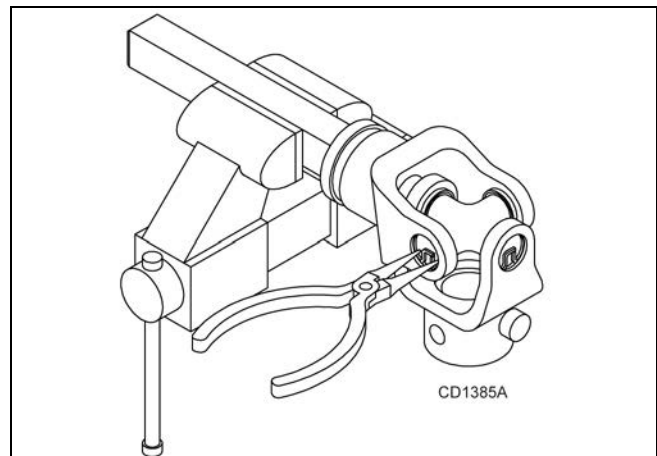

Figure 20
1. Remove external snap rings from yokes in four locations as shown in Figure 20.